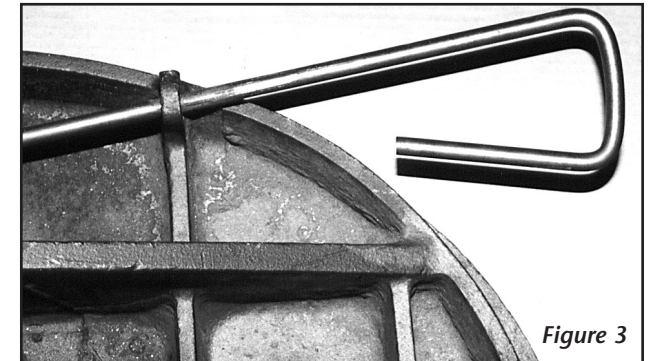

Figure 3
4. Install the release handle (16) through the guide slot in the casting. Install the release lever (15) on the handle (16). The open end of the release handle must face the rear of the casting, as shown in Figure 3.